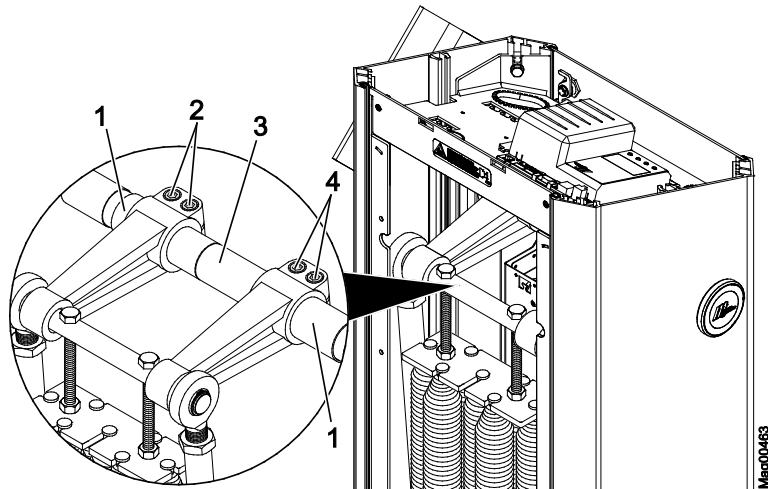

Fig. 40: Access XXL – Loosen hexagon socket screw
- Access XXL: See page 82, Fig. 40.